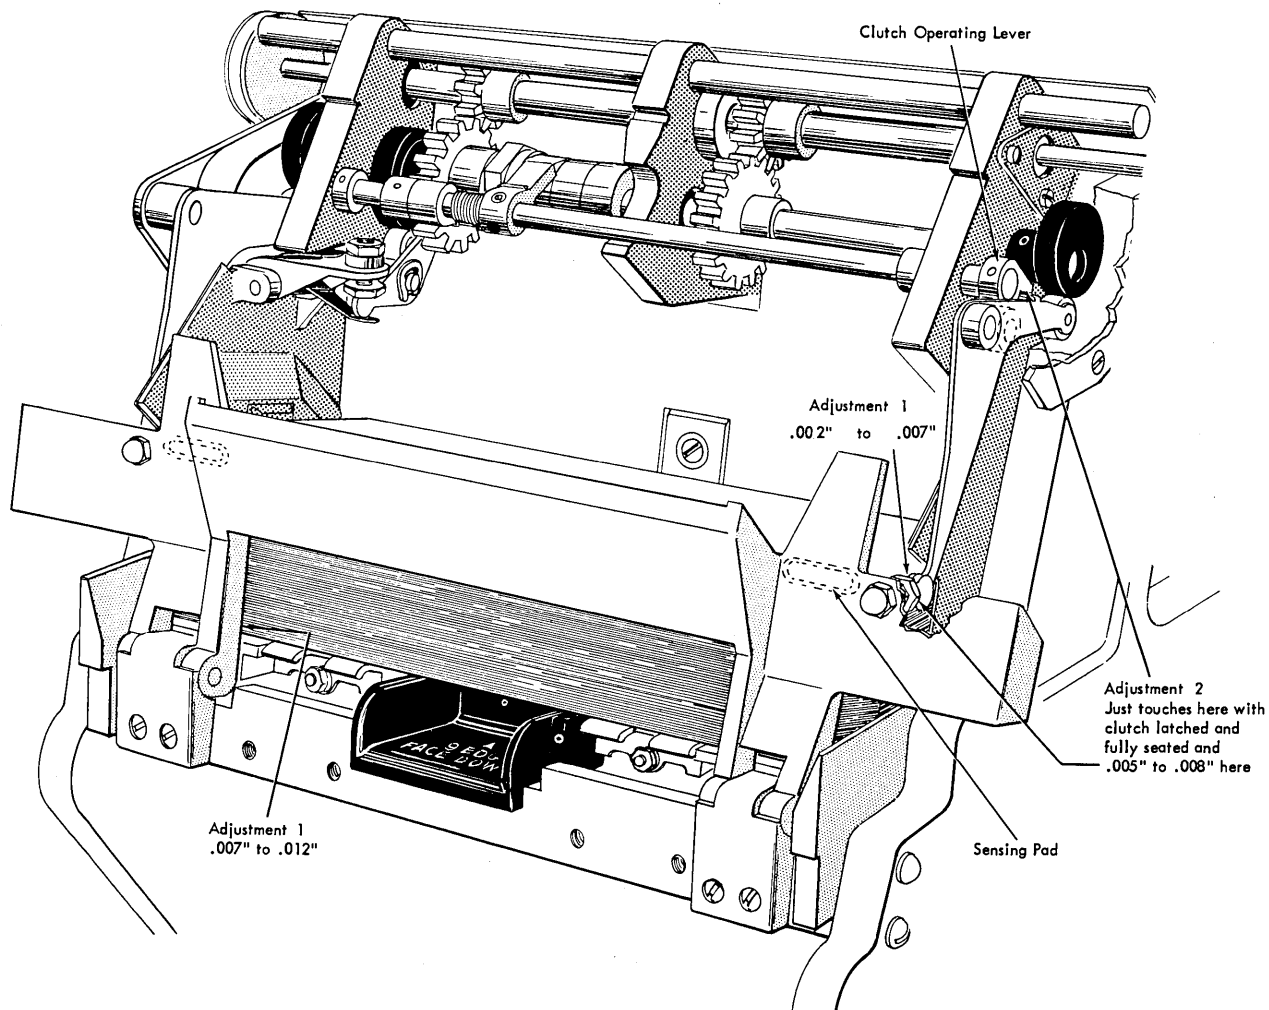

Figure 12. Drive Unit and Front Joggler
#### JOGGLER ADJUSTMENTS (FIGURE 12)
2. Turn the drive unit until the front joggler cam followers are on the high dwell of the cams. Fill the hopper with cards to a level even with the top of the sensing pads and close the joggler. Hold the cam follower (rear one for primary; front one for secondary) against the cam and continue to operate the unit. Stop when .005" — .008" clearance appears between the cam follower arm and the adjusting screw. Loosen the clutch operating lever on its pivot shaft and fully seat the clutch latch. With the cam follower against the cam, position the clutch operating lever so that it just touches the turned over ear on the cam follower arm (Figure 12). Tighten the setscrews in the clutch operating lever, securing it to its pivot shaft.